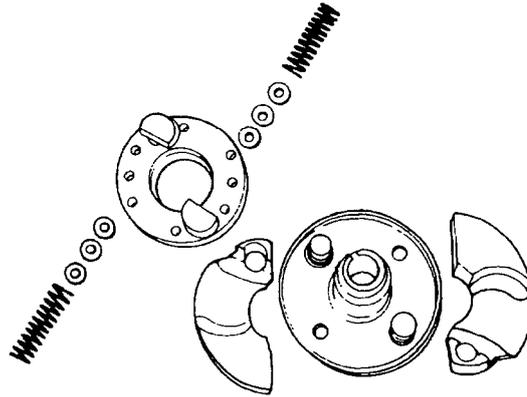

Figure 133 Removing the Flyweights
- e. Note the number and position of the shims fitted to each flyweight pivot as they are to be refitted in their original position and remove the springs, shims and flyweights (Figure 133).